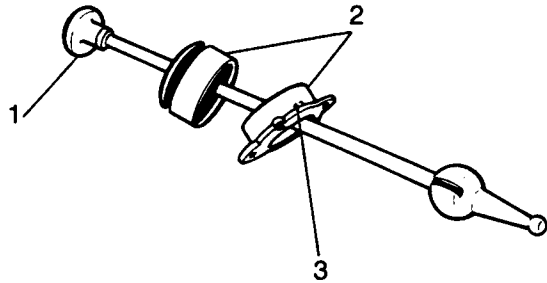

Fig H1.161
- (1) Refer to Fig H1.161. Replace the fixing screw (3).
- (2) Replace the dust cover and support (2) onto the ball joint.
- (3) Replace the fix ring nut and knob (1).
- (4) Refit the gear lever to the gearbox (see Sub-sub-section H1.3, Chapter 3).